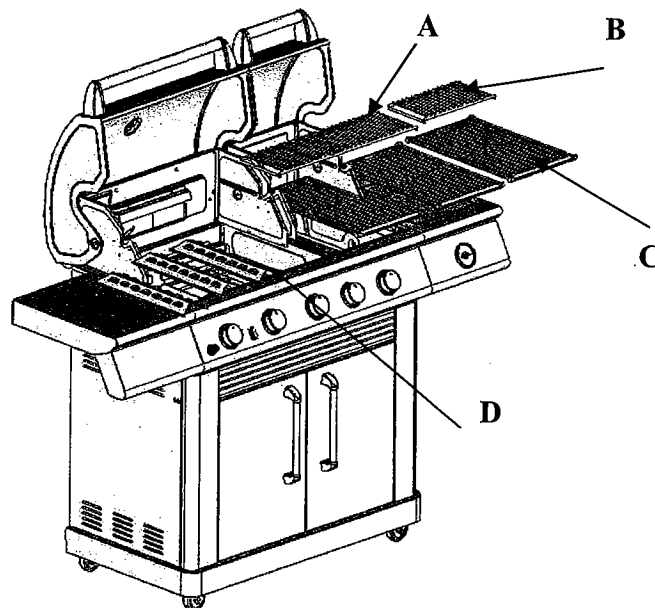

Fig. 33
Refer to Fig. 33, position three Flavor Step Tents (D), cooking grids (C) and two warming racks (A and B) into place.